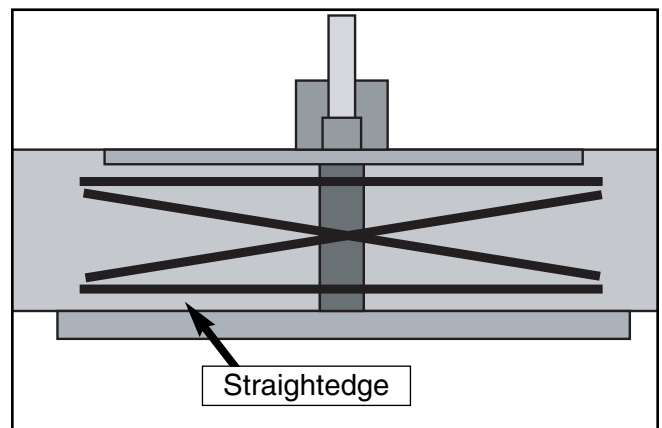

Figure 20. Positions for straightedge.
5. Check the alignment of the tables with the straightedge at the various points shown in **Figure 20**. Again, the straightedge should sit perfectly flat across both the infeed and outfeed tables with no gaps.